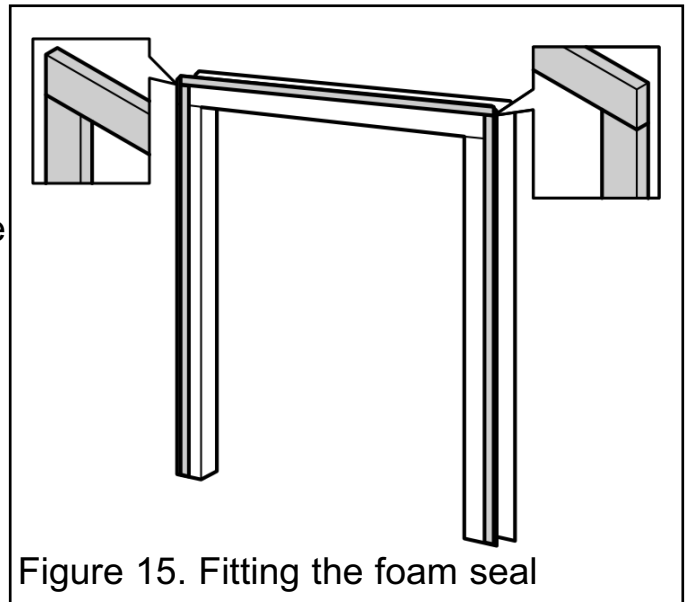

Figure 15. Fitting the foam seal
**10.** The long length of self adhesive foam seal supplied with the fire will need to be fitted to the outer rear edges of the side and top pieces of the spacer frame. Ensure that there is no gap between the foam seals where they meet at the top flange (See figure 15).